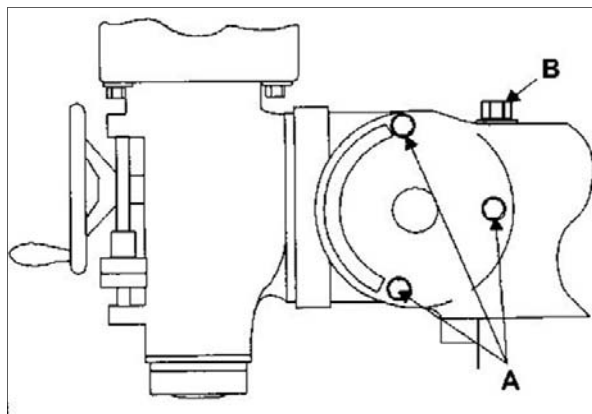

Figure 10: Head movement
- Loosen the three ram adapter locking bolts (A, Figure 10). It is unnecessary to loosen the bolts more than one-half (1/2) turn to allow tilting.
- Turn ram adapter worm nut (B, Figure 10) to tilt head forward and backward. Use scale on ram adapter to establish desired angle.
- When indicator reads zero, tighten ram adapter locking bolts (A, Figure 10).